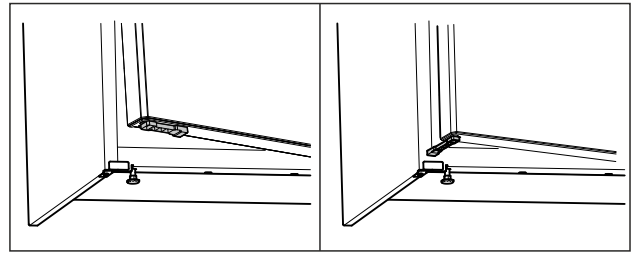

Fig. 68 *
- ▶ Turn door opening limiter by 90°. (see Fig. 68) *